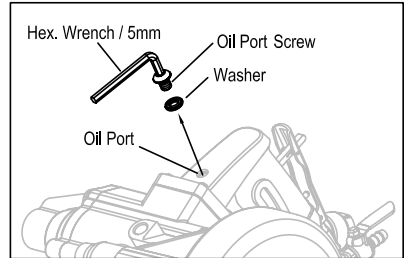

Figure 4
2. Remove the screw (Part No. 3001-0061) using the supplied Hex Wrench (5mm). (See Fig. 4)